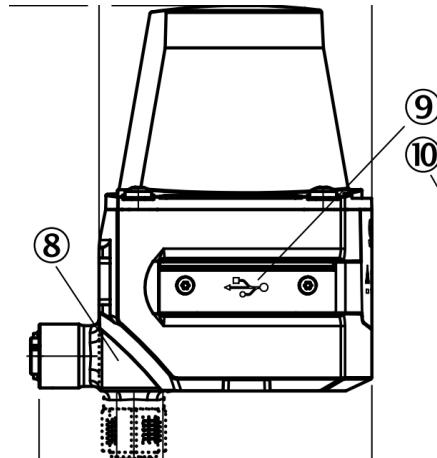

Figure 1-Lidar Side View
3. Connect your Micro USB cable to the Micro USB port, located behind the black rubber plate (9) as seen in Figure 1.